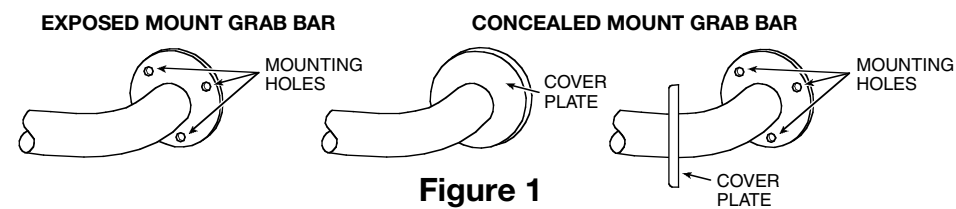

Figure 1
1. Remove the Grab Bar and parts from the package. If concealed mount Grab Bar is used, move cover plates away from mounting holes (see Figure 1).